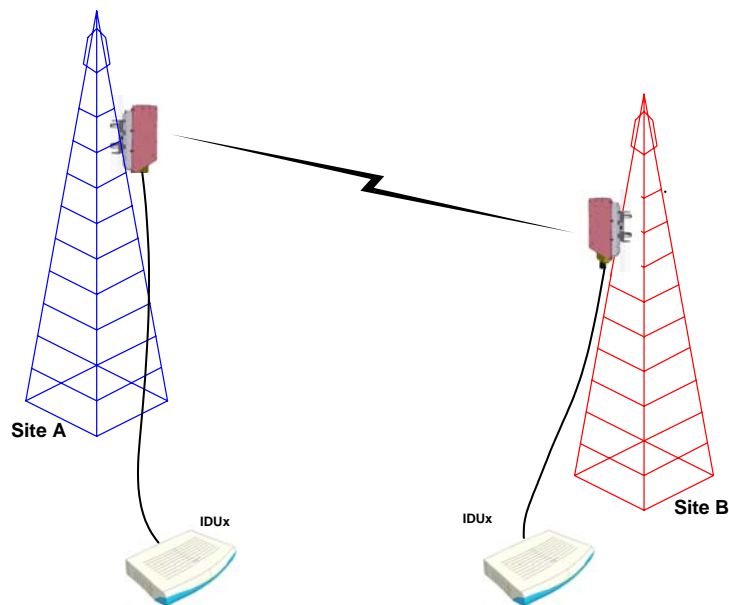

Figure D-1. WinLink 1000 Link Setup
Prior to attempting WinLink alignment, install the hardware and software in accordance with the WinLink 1000 Installation and Operation Manual. *Figure D-1* shows the link setup. At least two people are needed to perform the alignment procedures.
2. Connect the equipment as shown in *Figure D-1* but connect a spectrum analyzer in place of the remote WinLink 1000–AIND.